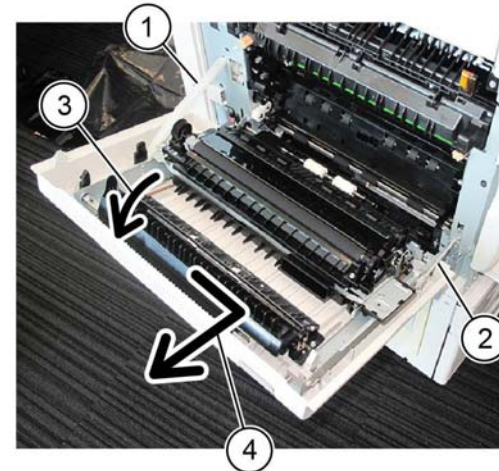

Figure 4 LH cover removal
5. Remove the L/H cover, Figure 4:
- b. Rotate by 90 degrees, then disconnect the rear support (1).
- c. Rotate by 90 degrees, then disconnect the front support (2).
- d. Hold the L/H cover (3) open at 90 degrees.
- e. Remove the L/H cover in the direction of the arrow (4).